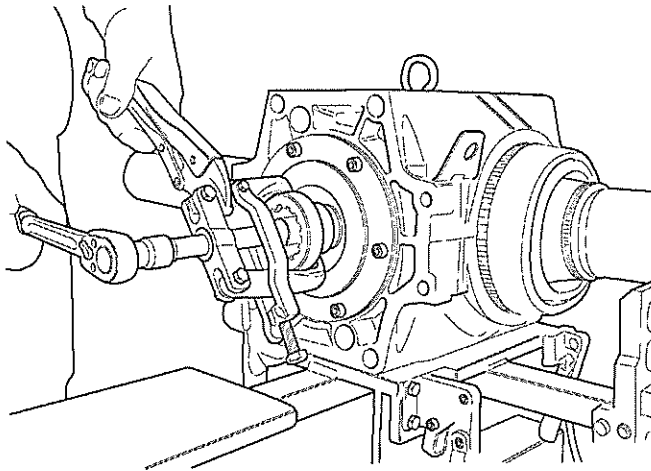

Fig 12 Coupling sleeve removal
6.9 Insert distance piece (Table 1, Ser 6) at compensator shaft, fit steering drop arm puller (Table 1, Ser 7) centrally and pull off coupling sleeve (see Fig 12).